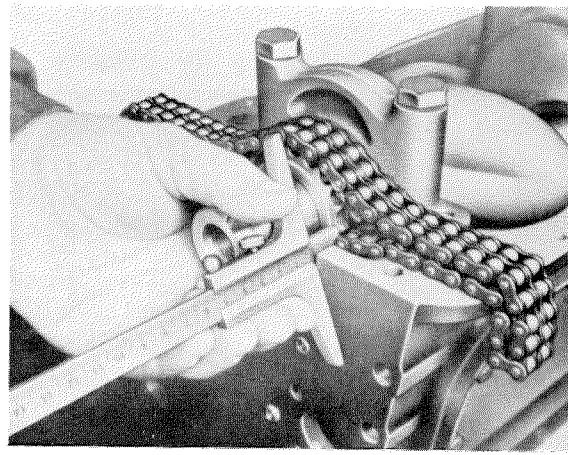

Figure 03-5/12
18. Accordingly turn the crankshaft to approach the connecting rods to the crankshaft journals. Insert the big end bearing shells (see Job No. 03-5, Section A, item 12, as well as Figure 03-5/2 and 01-5/3).
The hex. nuts and/or the connecting rod bolts are tightened without a locking plate for an elongation of 0.1 mm, corresponding to a tightening torque of 3.75 to 3.80 mkg. Measure the elongation with the help of a dial gauge or a micrometer (see Figure 03-5/7).
First measure the length (L) of the connecting rod bolt without screwed on nut, then tighten the nut until the bolt has elongated by 0.1 mm (see Figure 03-5/8).